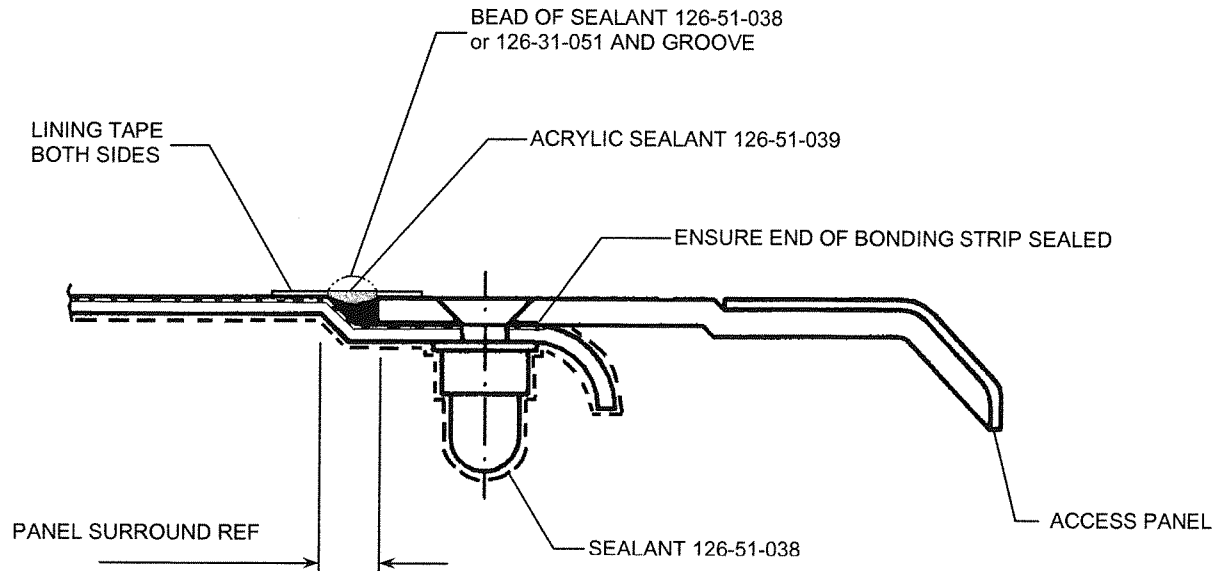

FIGURE 4
- 20.2 Check that the sealant around the anchor nuts is in good order repair by painting with sealant 126-51-038 use 30mm margin around any damage. Ensure end of bonding strip is sealed, refer Figure 4.
- 20.5 Using gloved finger remove bead of sealant (before cured), leaving a curved-bottomed groove. Allow sealant to cure, Figure 4 refers.
- 20.11 Once dry remove masking and using lining tape, line edge of groove. Ensure tape level. Refer Figure 4.